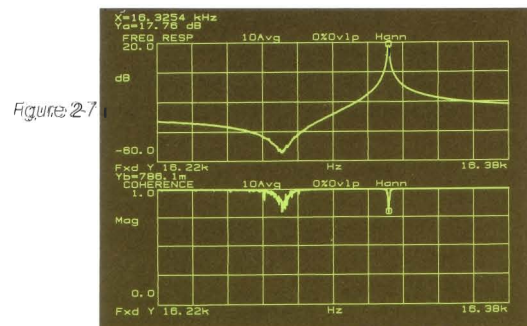

Figure 2-7
- 4. Coherence.** Press the **MEAS DISP** key, then select the **COHER** softkey to display the coherence function. The display should be similar to Figure 2-7